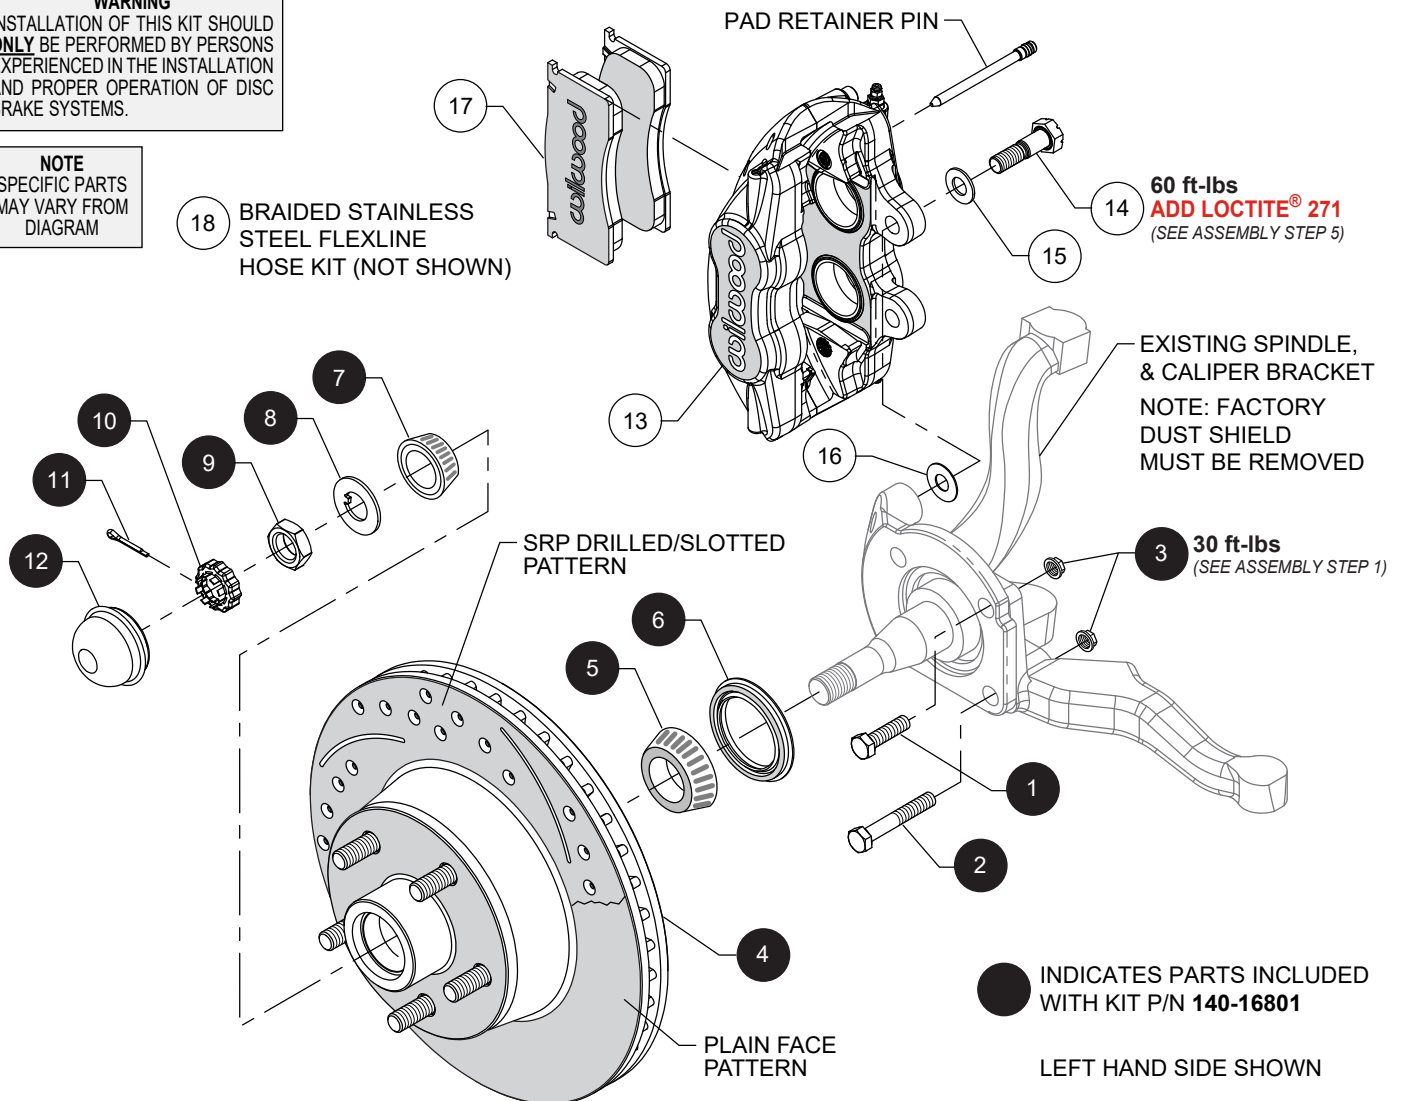

Figure 1. Typical Installation Configuration
Numbers in parenthesis refer to the parts list and Figure 1 on the preceding pages.
**STEP 1** Reinstall the existing OEM caliper mounting bracket and secure using supplied bolts (1 and 2) and nuts (3). Note the location of the longer bolt (2) as shown in Figure 1 and photos 1 and 2. **NOTE:** *Supplied bolts and nuts in kit must be used for proper rotor clearance.* Torque nut to value shown in Figure 1.
**STEP 2** Pack the large inner bearing cone (5) with high-temp disc brake bearing grease (available from your local auto parts store) and install into the backside of the hub/rotor (4), Figure 1 and Photo 3.
**STEP 3** Install the grease seal (6) by pressing into the backside of the hub (4), flush with the end of the hub, Photo 4.
**STEP 4** Pack the small outer bearing cone (7) with high temperature disc brake bearing grease and install into the front side of the hub (4). Slide the hub/rotor onto the spindle. Secure using spindle washer (8) and spindle nut (9). Adjust bearings per OEM specifications. Install spindle nut retainer (10) and cotter pin (11), Photo 5. Press the dust cap (12) into hub (4), Photo 6. **NOTE:** *Do not hammer center of cap, install using outer flange only.*
**STEP 5** Mount the caliper (13) onto the existing OEM caliper mounting bracket using bolts (14) and washers (15), as shown in Figure 1. Initially place one .033" thick shim (16) on each bolt between the caliper and the bracket, Photo 7. Temporarily tighten the mounting bolts and view the rotor (4) through the top opening of the caliper. The rotor should be centered in the caliper, Photo 8. If not, adjust by adding or subtracting shims (16) between the bracket and the caliper. Always use the same amount of shims on each of the two mounting bolts. Once the caliper alignment is correct, remove the bolts one at a time, apply red *Loctite*® 271 to bolt threads, and torque to value shown in Figure 1.
**STEP 6** Remove the two pad retaining pins from the caliper. Insert the brake pads (17) into the caliper, with the friction material facing the rotor, as shown in Photo 9 and secure the brake pads in place with the pad retaining pins, Photo 10. Be sure pad pins are completely engaged into caliper.
**STEP 8** Attach brake line to caliper. Install Wilwood's stainless steel braided flexline hose kit (18), P/N 220-12168 included with this kit, as shown in Photo 11. The caliper inlet fitting is a 1/8-27 NPT. Use the included steel adapter fitting at the caliper (use PTFE tape on the pipe threads of adapter fitting for proper sealing to caliper). **Ensure hoses are routed to prevent contact with moving suspension, brake or wheel components.**